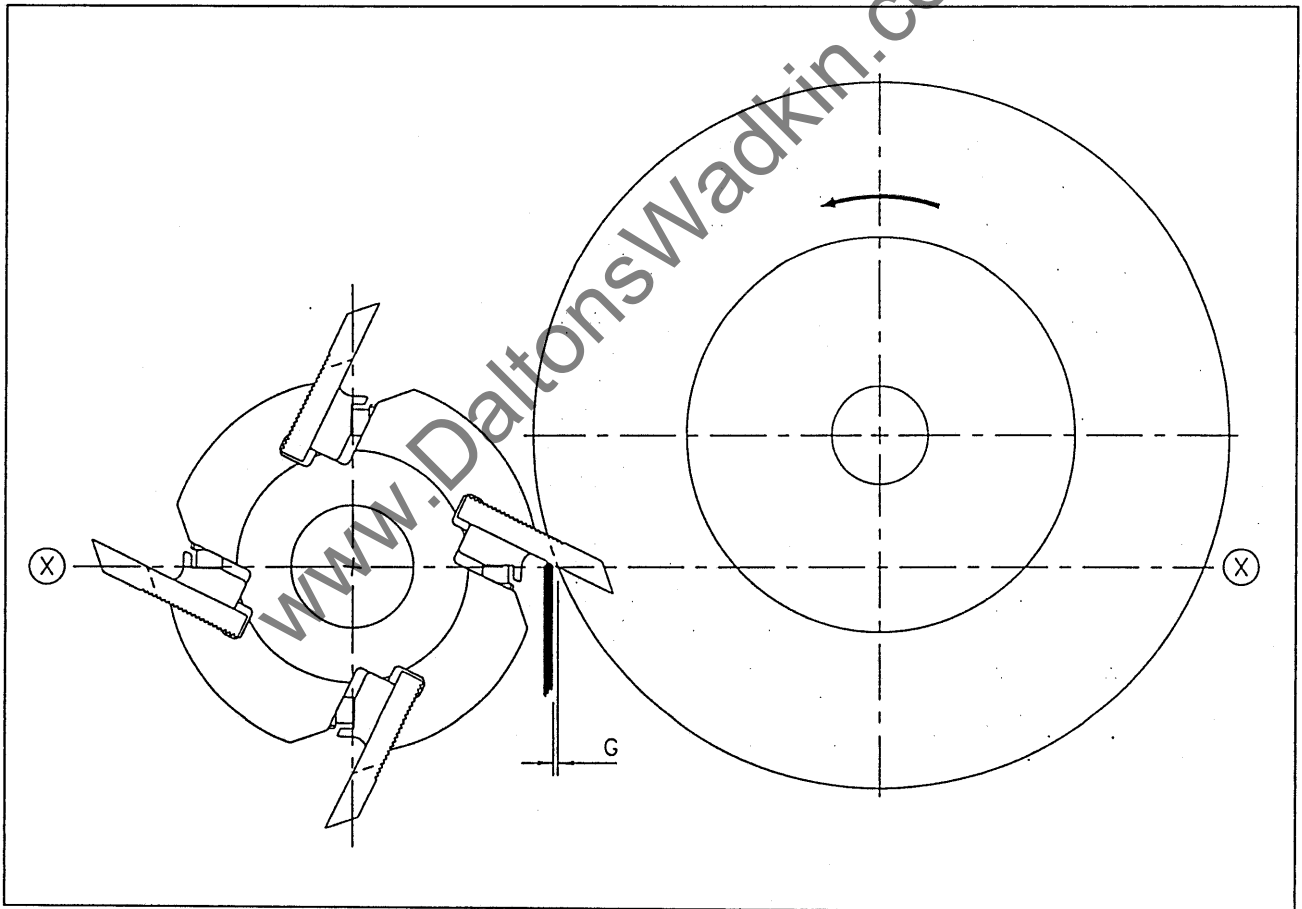

Fig. 1c
Theoretically the cutter rest and the ground edge of the cutter should be at the same point, [the theoretical grinding point], however for practical considerations there must be a gap (G) between the cutter rest and the wheel. *Fig. 1c.*